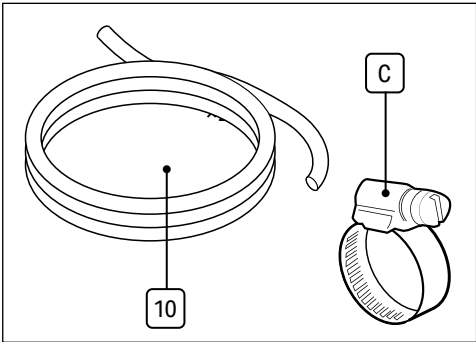
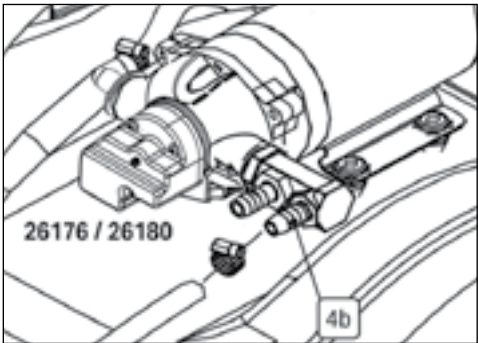

Fig. 3
Fig. 5
6.2 Attaching Spray Gun Hose to Pump (Fig.3 - Fig.5)